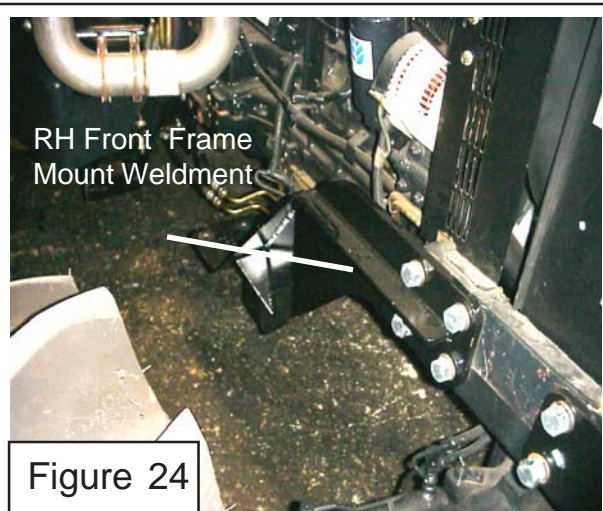

Figure 24
4. Install Front Frame Mount Rails. The Front Frame mount rails will consist of a RH & LH (See Figure 19, 20, 24 & 25) These will only fit one way as they have a gusset reinforcement on one side that will be showing to the outside when installed. These can be lifted by the technician installing them. The LH and RH will install the same way, Using 4 bolts each that screw into tractor casting on the side of the tractor (See Figure 24). Make certain that all 3/4" and 20 mm bolts have hardened flatwashers on them.